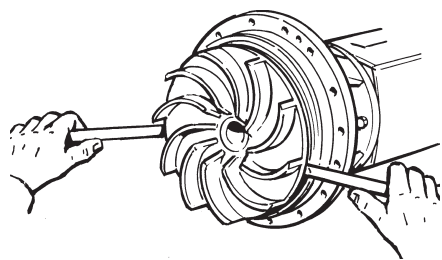

Fig. 4
- b) Use levers to prise off the impeller as in Fig. 4.